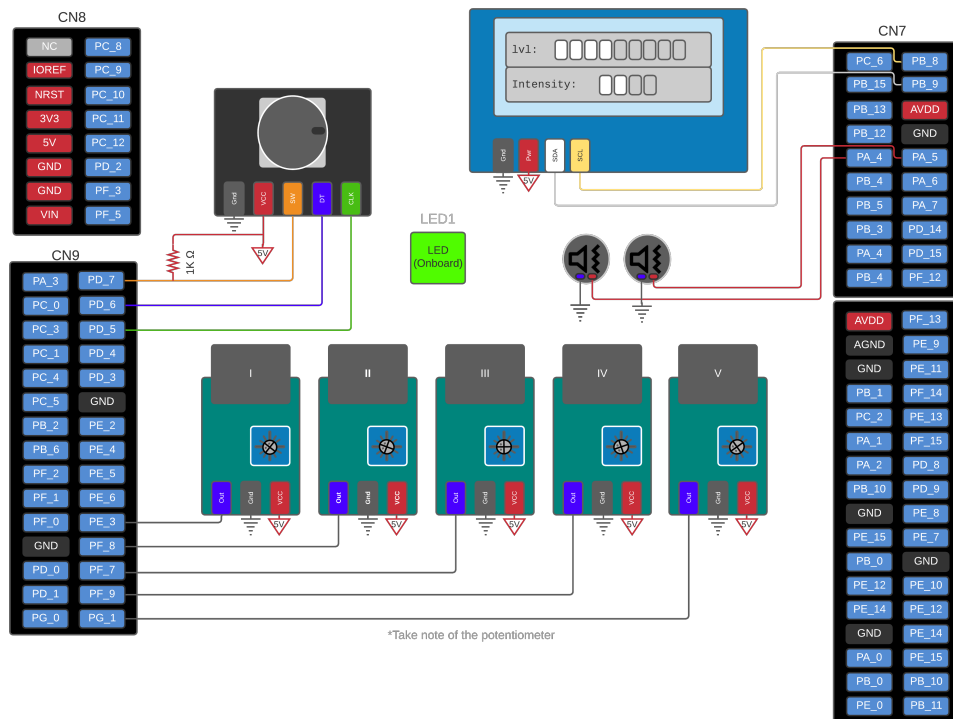

Figure 3: Schematic
4. Connect out pin to corresponding pins on the Nucleo from - Figure 3.
6. Connect SW, DT and CLK to corresponding pins - Figure 3.
7. Connect vibration motor to ground and corresponding pins - Figure 3.
9. Connect LCD SDA and SCL to corresponding pins - Figure 3.